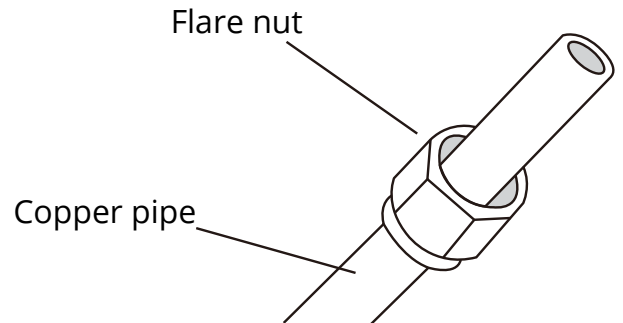

Fig. 2.11
2. Remove the cut-off valve of outdoor unit and take out the flare nut from the bag of indoor unit accessories. Fit the flare nut on the pipe, as shown in **Fig. 2.11**.